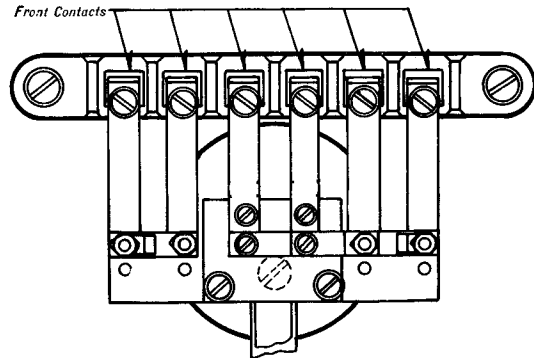

Fig. 10—No Back Contacts, Four Front Contacts in Parallel and Two Front Contacts, Making One Independent Circuit
- (d) No back, six front contacts, with connector strip separated to give a group of four fingers tied in parallel and another group of two fingers tied in parallel (Figures 10 and 17).